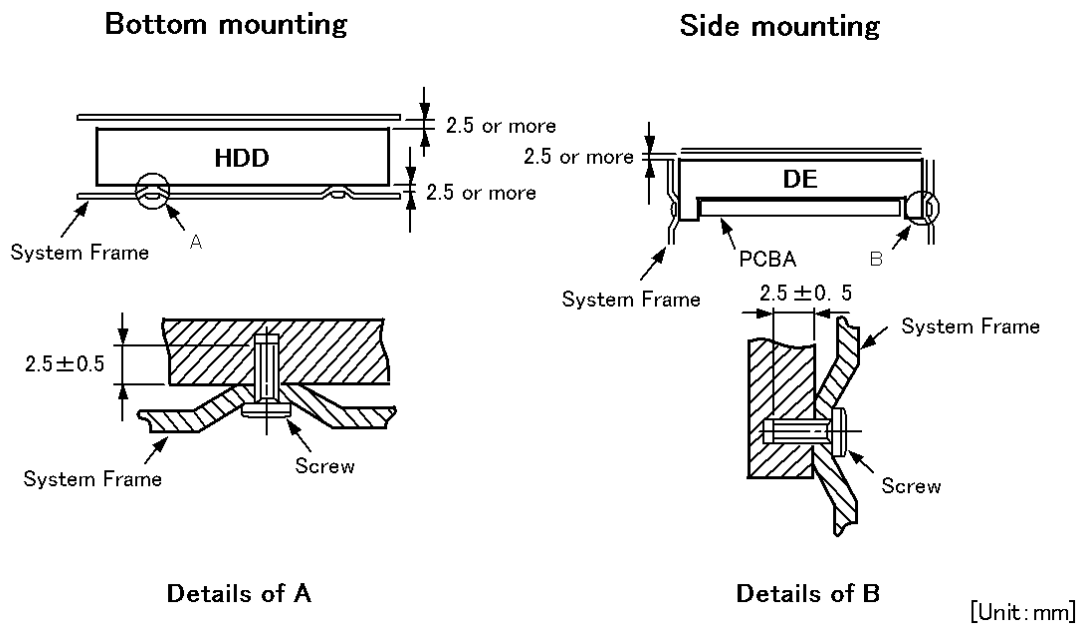

Figure 4.3 Mounting frame structure example
- a) The frame never touches any components on the PCBA of the HDDs. For example as shown in Figure 4.3, mount the HDDs with a gap of 2.5 mm or more from the frame.
- b) As shown in Figure 4.3, the inward projection of the screw from the HDD frame wall at the corner must be $2.5 \text{ mm} \pm 0.5 \text{ mm}$.